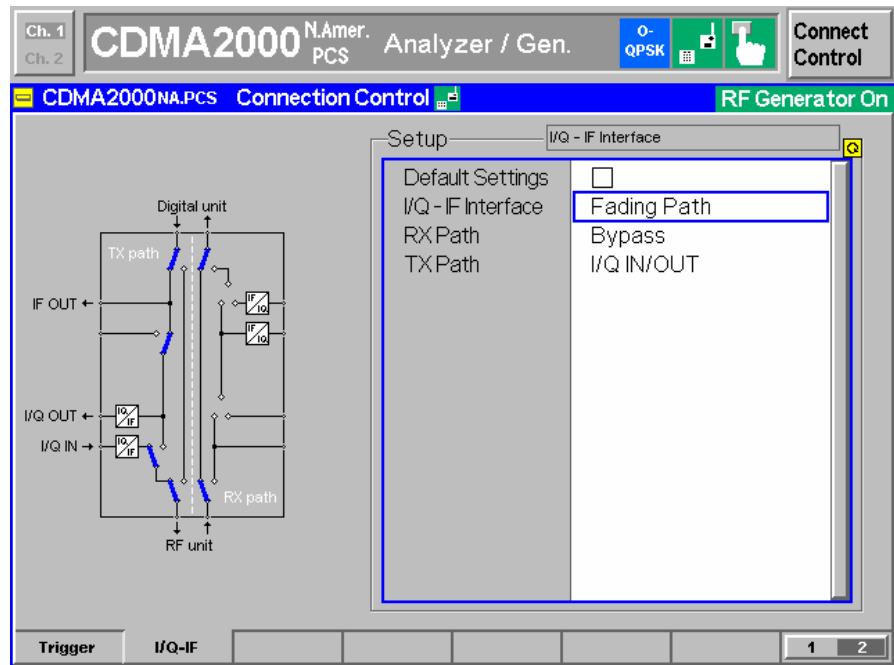

Fig. 21 IQ/IF Fading Configuration
6. The resulting Average MS Power P_{MEAS} (Fig. 23) must be subtracted from the reference power P_{REF} (Fig. 21) to obtain the **INSERTION LOSS** of the IQ path.